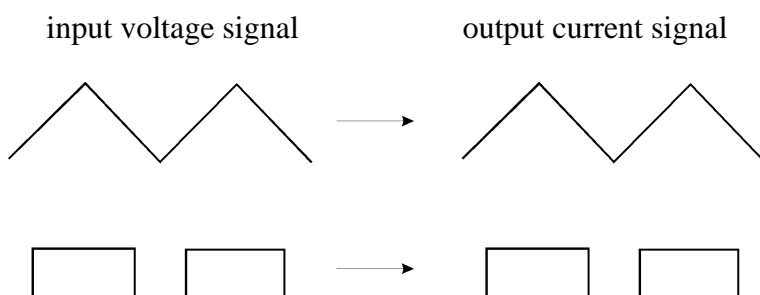

Figure 3: input-output relation using STIMULUS INPUT
Analog input BNC connector for applying signals from an external stimulus source. The voltage signal that is connected here is transformed to a proportional current at the electrode with a sensitivity of 1 nA/V, i.e. an input voltage of 5 V is transformed to an output current of 5 nA (if switch (9) is set to x1). The signal form remains unchanged. Two examples are given in Figure 3. The amplitude of the output current signal (CURRENT STIMULUS) is determined by the amplitude of the input voltage signal.
Analog input BNC connector for applying signals from an external stimulus source. The voltage signal that is connected here is transformed to a proportional current at the electrode with a sensitivity of 0.1 nA/V, i.e. an input voltage of 5 V is transformed to an output current of 0.5 nA (if switch (9) is set to x1). The signal form remains unchanged (see also 23 and Figure 3).
**Very Important:** If switch (9) is set to x10, all current input signals are multiplied by the factor of 10, i.e. STIMULUS INPUT 1 nA/V is then 10 nA/V and 0.1 nA/V is 1 nA/V, respectively!!
**Important:** The current injected through the electrode is always the sum of the input signals at STIMULUS INPUT (23 or 24), the holding current set by HOLDING CURRENT (10) and switch (11), and the gated stimulus set by STEP SIZE (28) and switch (26).
**(25) ON / OFF switch**